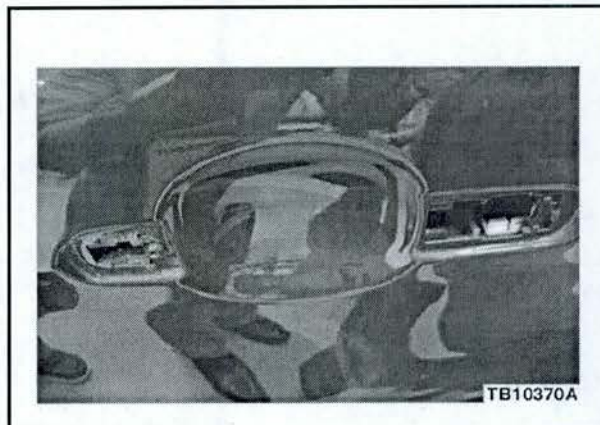

Figure 2 - Article 12-12-12
2. Remove both sections of the exterior door handle, bezel and the rubber gaskets. (Figure 2)